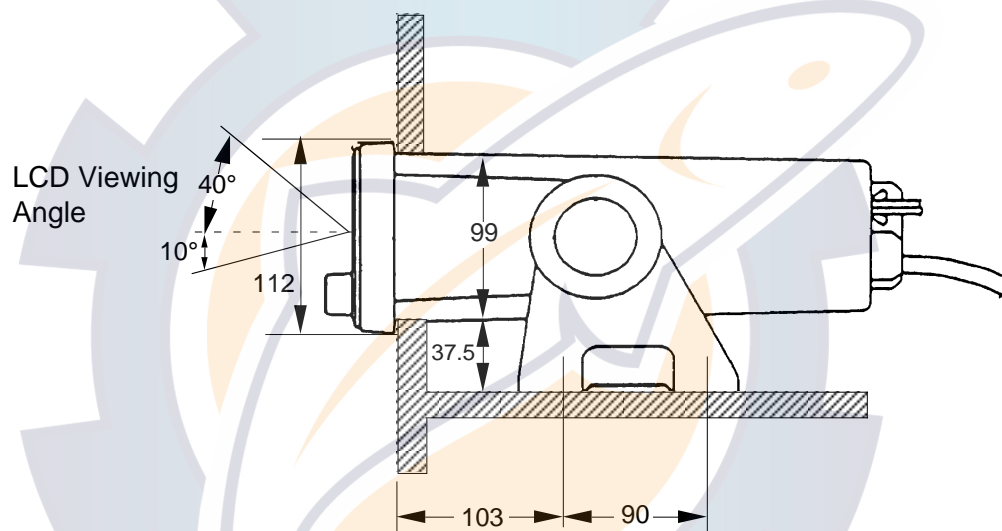

Figure 1-2 Mounting dimensions for console mounting
- Select a place where the LCD can be easily viewed, keeping in mind the LCD viewing angle is as shown in Figure 1-2.
This method does not require any additional kit. However, the dimensions of the cutout must be accurate since the hanger also is installed. Prepare a cutout in the mounting location whose dimensions are as shown in Figure 1-2.